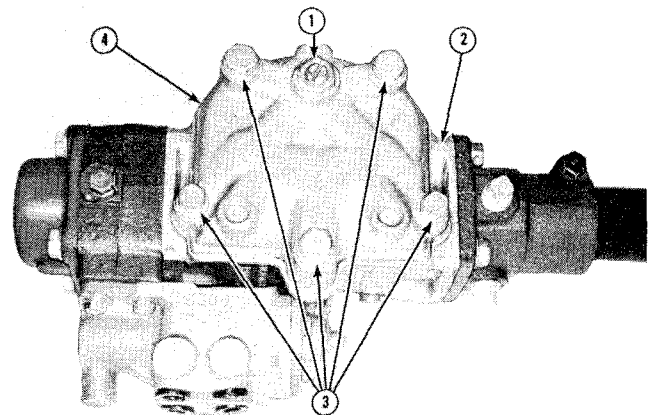

Figure 8-33
Secure cover (4, Fig. 8-33) to housing with cap screws (3), flat washers and nuts. Do not install long cap screw at top of gear box at this time. Tighten the cap screws to the recommended torque according to their diameter (refer to "SPECIAL TORQUES" under "SERVICE INFORMATION").